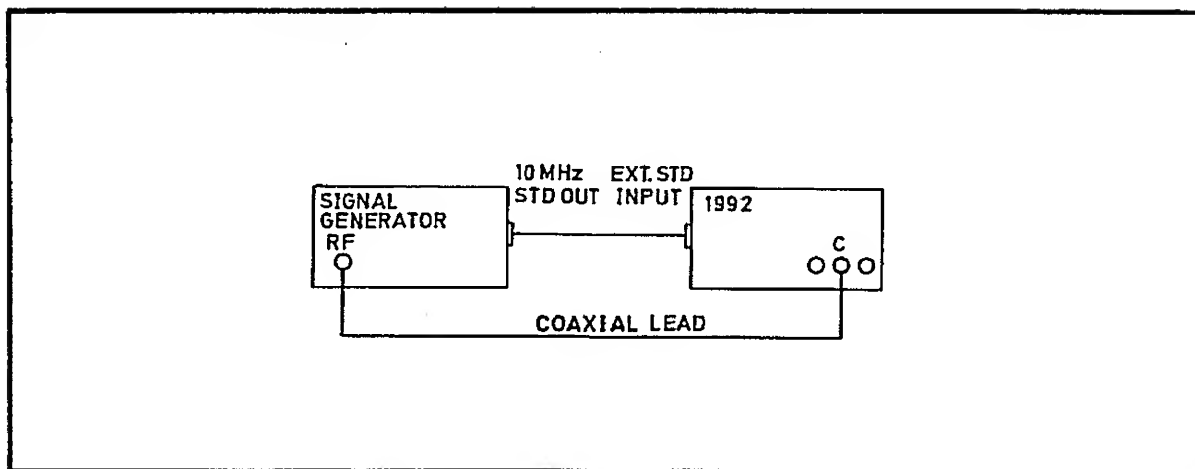

Fig 7.13 Connections for Channel C Input System Adjustment
- 37 Connect the test equipment as shown in Fig 7.13.